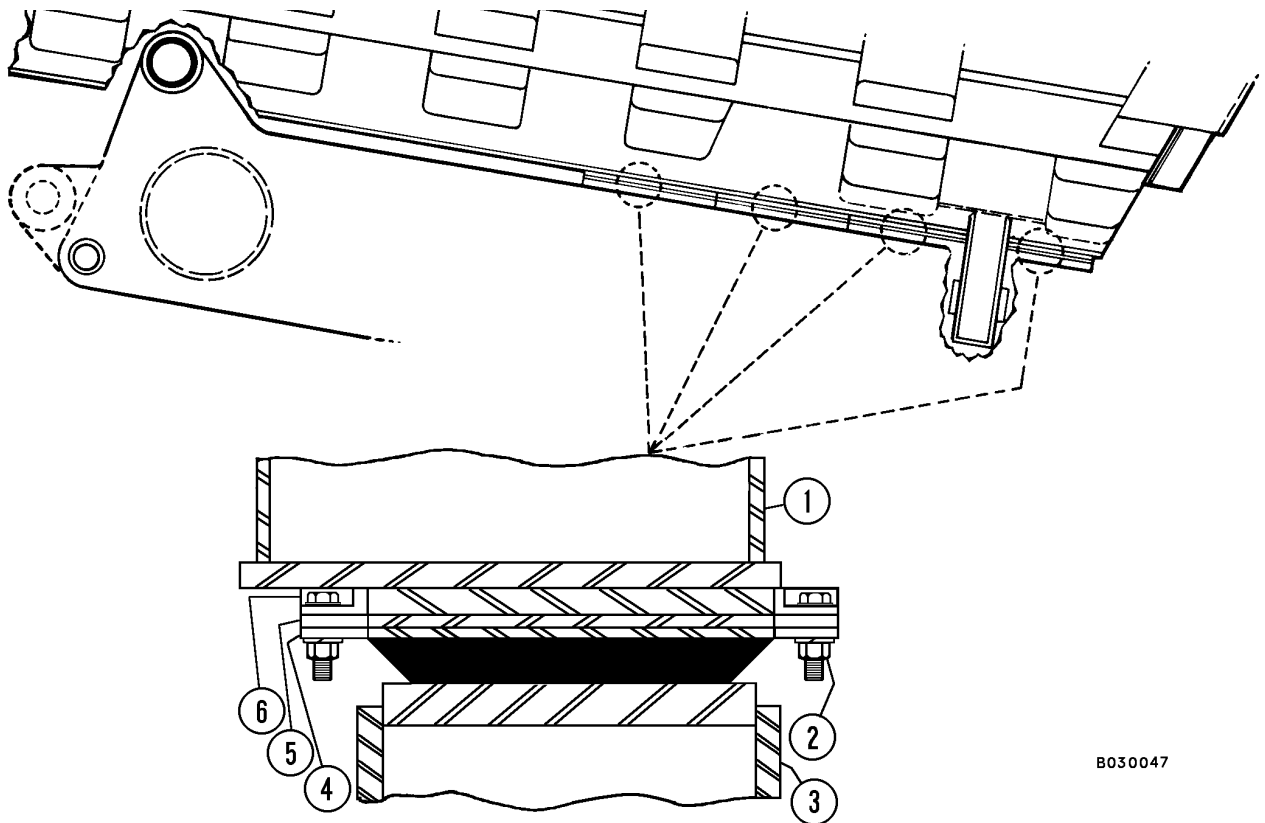

FIGURE 3-4. BODY PAD INSTALLATION
2. Remove hardware attaching pads to the dump body. Refer to Figure 3-4.